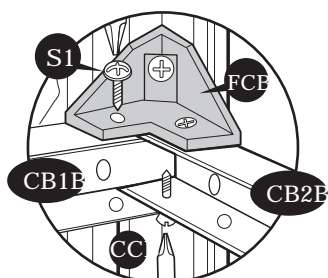

Fig.1: Use (S1) screws. Fix (CB1B) to (FCB) and (CB2B).
20. Attach the center band (CB1B) to door column, corner column and center band (CB2B). See figures 1 and 2.